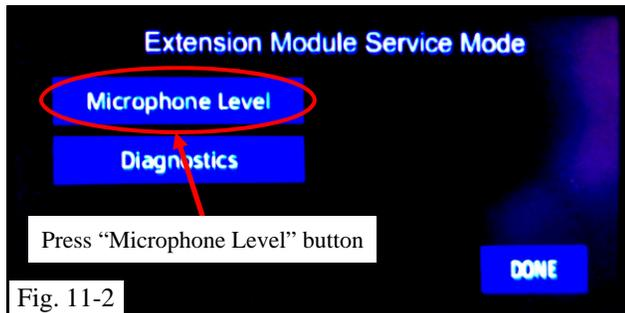

Fig. 11-2
- (b) Press the “Microphone Level” button (Fig. 11-2).